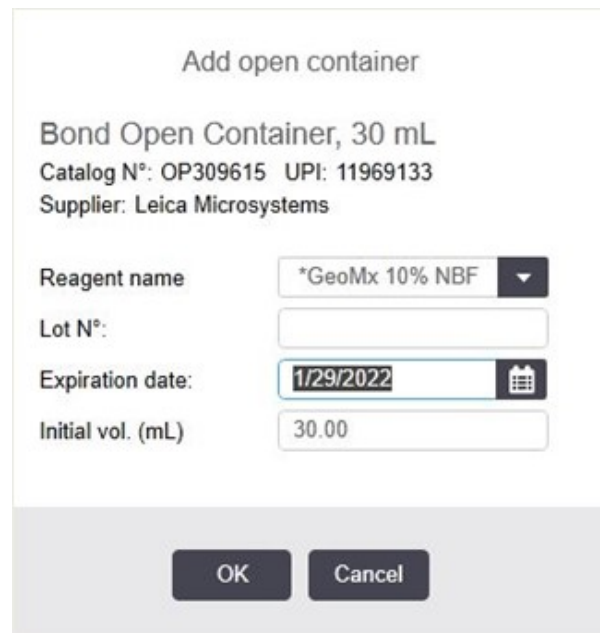

Figure 59: Add open container window
- In the **Add open container** window (see Figure 59), select ***GeoMx 10% NBF** from the **Reagent name** drop-down menu, enter a **Lot No.** (if required), and enter an **Expiration date**.